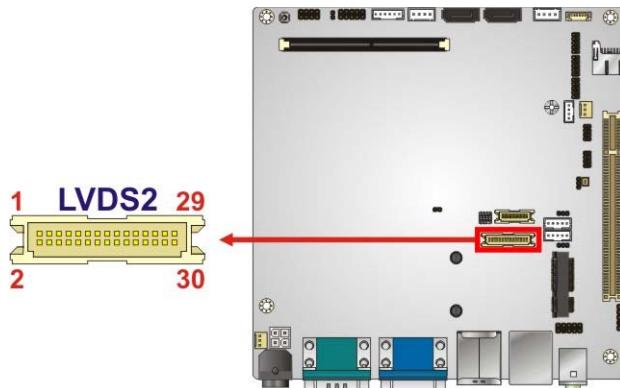

Figure 3-9: LVDS2 Connector Location
**CN Location:** See Figure 3-9